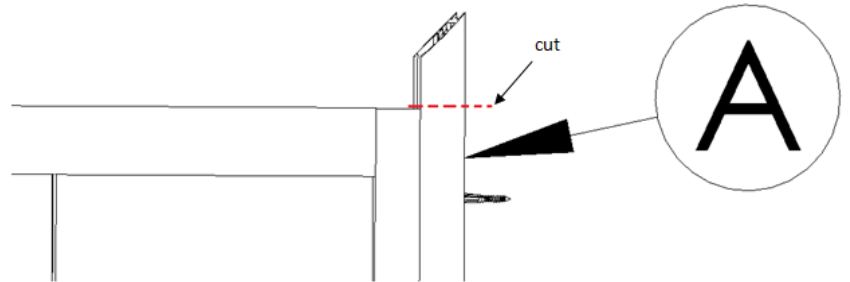

Figure 1
1. Position Wall Jamb Post (A) up against the wall and Floor Jamb Post (B) floor. Make sure the curved surface of the Wall and Floor Jamb is facing the outside of the shower and the angled ends are flush. Using the three pre-drilled holes on the wall Jamb and Floor Jamb as guides, mark and drill six 1-1/2" deep installation holes using a 1/8 drill bit.
2. Mark where the Wall Jamb Post (A) and Floor Jamb Post (B) pass the Panel (C). Cut off the excess Wall and Floor Jamb using a saw, shown in Figure 1.
3. Insert six Plastic Screw Anchors (C) into installation holes.
4. Reposition the Wall and Floor Jamb, secure to wall and floor using six Installation Screws (D).